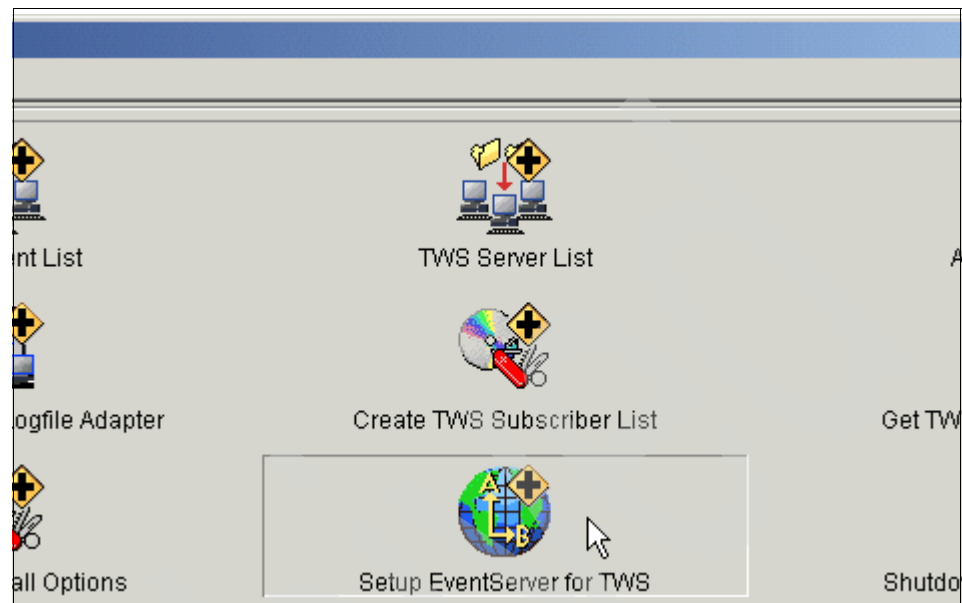

Figure 8-49 Starting Setup EventServer for TWS Framework task
4. Double-click the Setup EventServer for TWS icon as shown in the Figure 8-49.